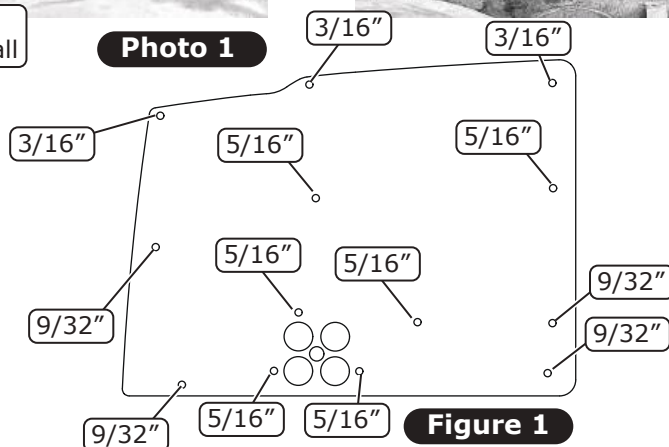

Figure 1
- Place the firewall cover on the firewall, and secure it with (2) #14 x 3/4" washer head screws (See Photo 2, below). Using the firewall cover as a template, mark all holes (See Photo 2, below). **NOTE: Most holes will already be present on the firewall and will only require enlarging or no modification at all.**
- Remove the firewall cover from the firewall, then drill or enlarge all holes to the sizes shown on Figure 1, below.